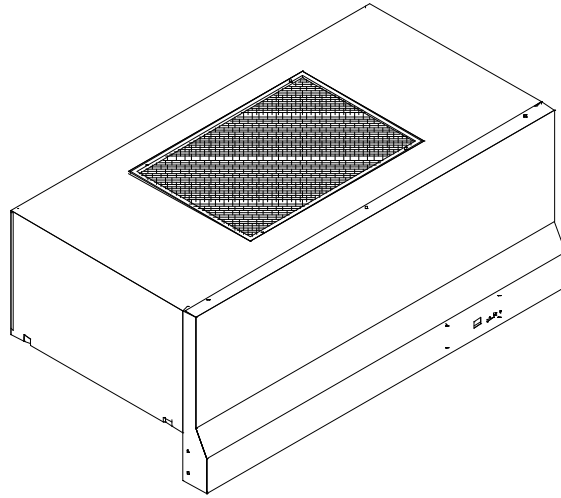

Figure 8 - Enlarged Shroud
- b. Remove the prefilter from the snap-in frame. (See Figure 8)